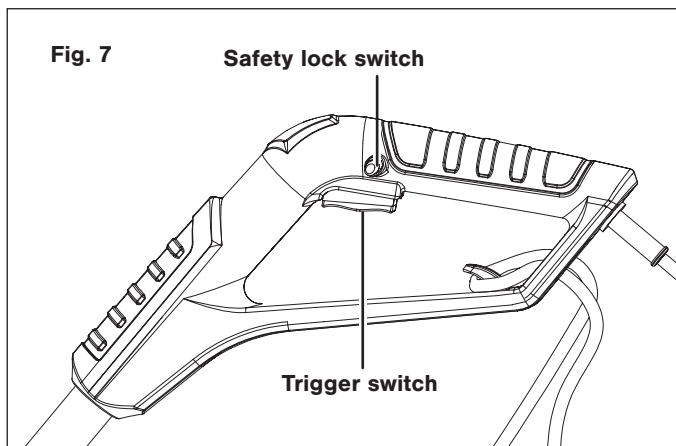

Fig. 7
1. To start the electric snow shovel, push and hold the safety lock switch on the side of the handle grip with your thumb and then squeeze the trigger switch with your fingers. Once the machine powers on, you can release the safety lock switch and proceed with operation (Fig. 7).